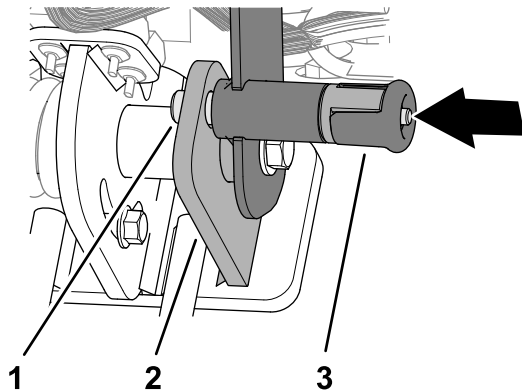

Figure 73
2. Ensure that the handlebar-latch pin extends through the hole in the detent plate (Figure 73).